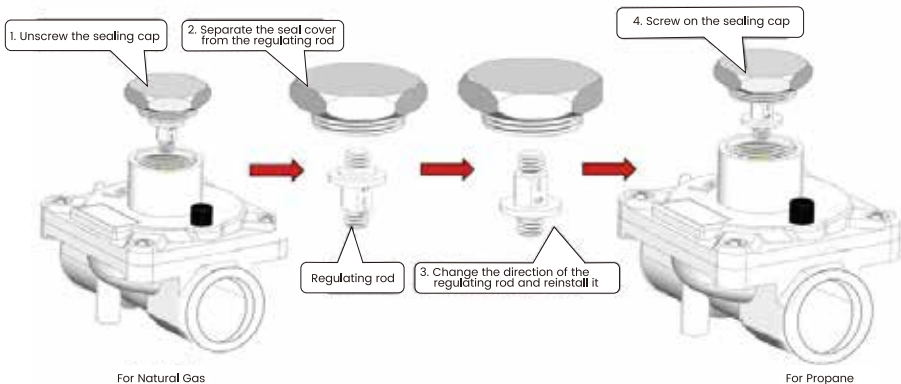

Fig.21
6. Test the outlet pressure, the pressure is required to be 10 ± 1 in w.c. If it cannot meet the scope of the requirements, need to unscrew the pressure regulator nut as Fig.21, rotate slightly to adjust the white plastic parts inside the pressure regulator.
8. Similarly, when use in NG status, turn the marked NG arrow upwards and tighten it to the screw cap (Fig.21). Repeat the above operation. The outlet pressure requires to be 4 ± 1 in w.c.